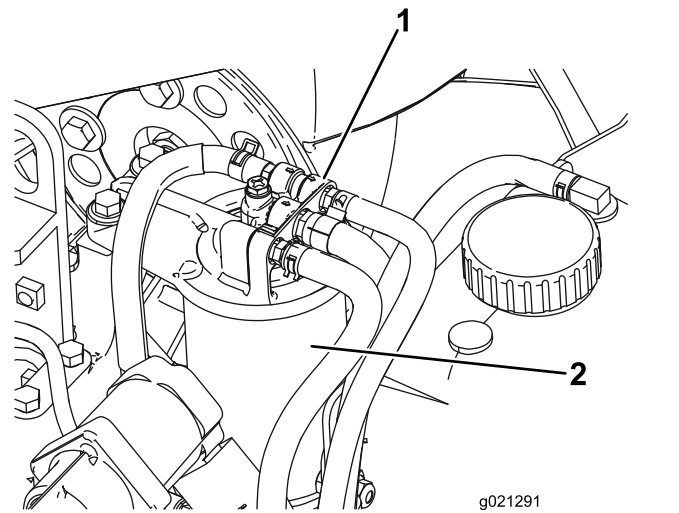

Figure 80
2. Remove the filter and clean the filter head mounting surface (Figure 80).
1. Clean the area around the fuel filter head (Figure 80).